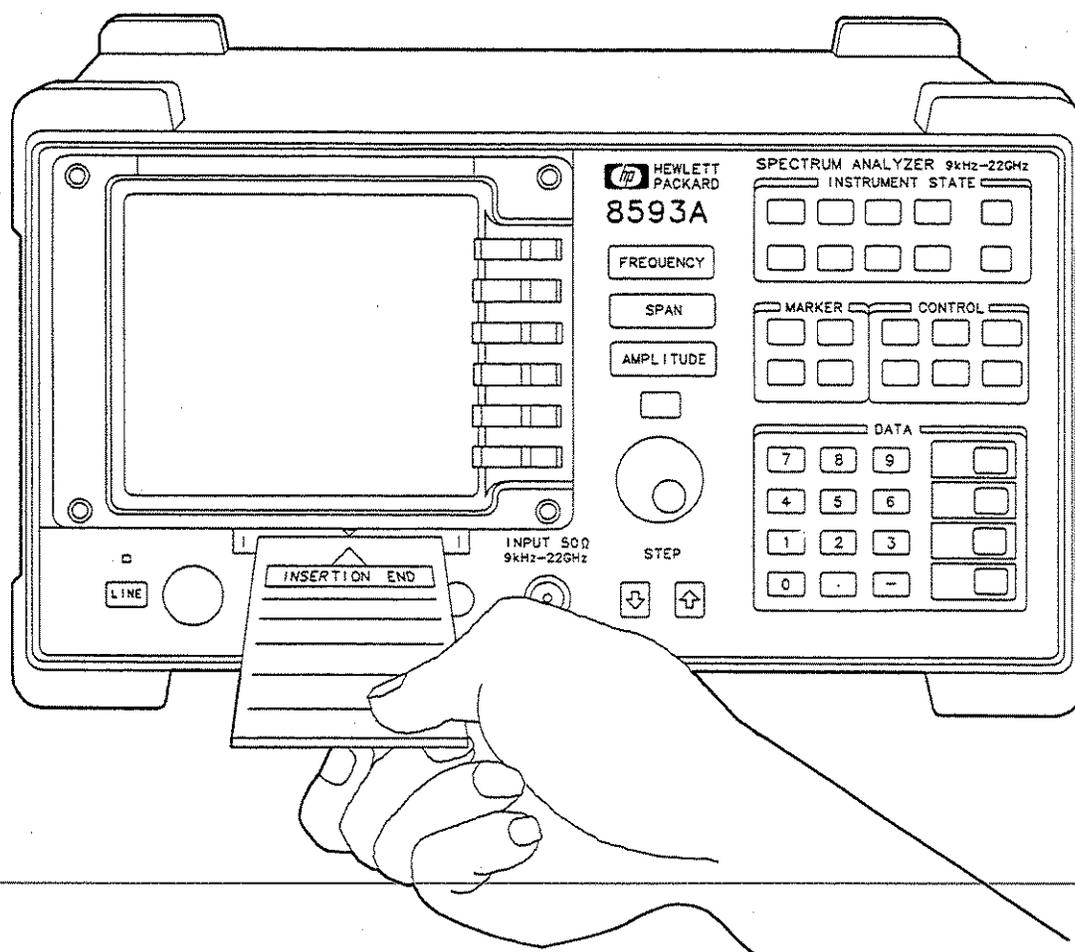

Figure 1-7. Inserting the Memory Card
2. Insert the card with its arrow matching the raised arrow on the bezel around the card-insertion slot. See Figure 1-7.